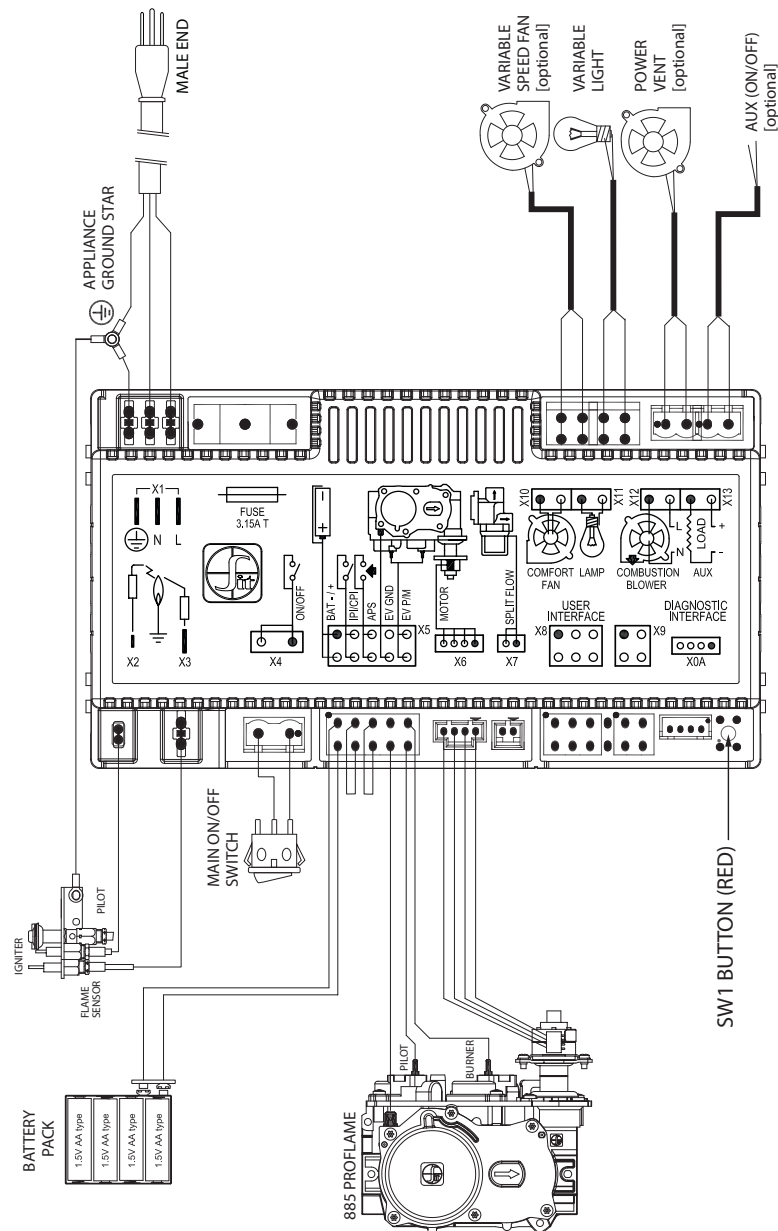

Figure 9.1, Wiring Schematics
9. Plug the fan cord into the receptacle on the IFC control module. See Section Figure 9.1, Wiring Schematics on page 49.